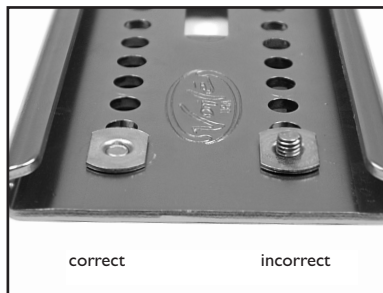

FIGURE 10
2.) The binding screws must be flush with the T-nut bottom so they do not interfere with sliding the Slider Track over the Nylon Location Blocks/Pucks. Use the rubber Slider Track Gaskets between your binding and the Slider Track. This will help take up space and keep screws flush with T-nut bottom. If your screws are not flush, you may have to grind the screws or add washers to the top of the screws. (See Figure 10)